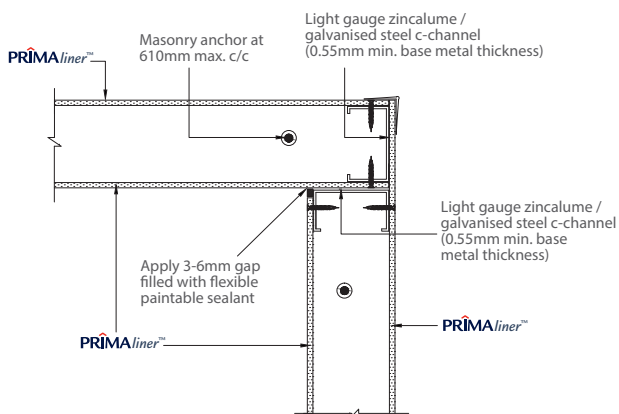
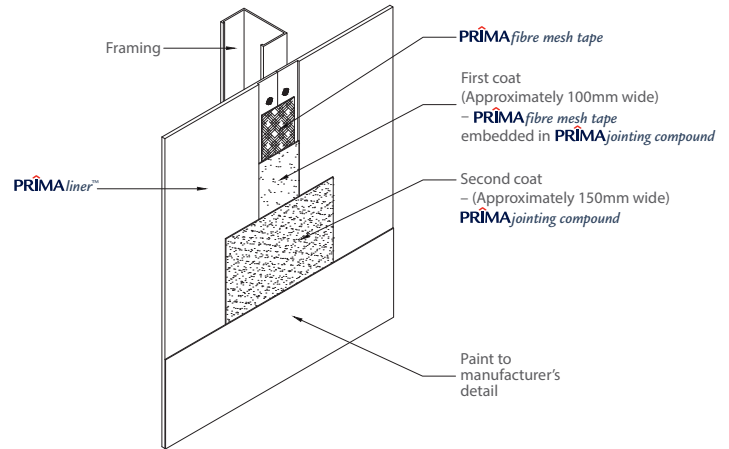
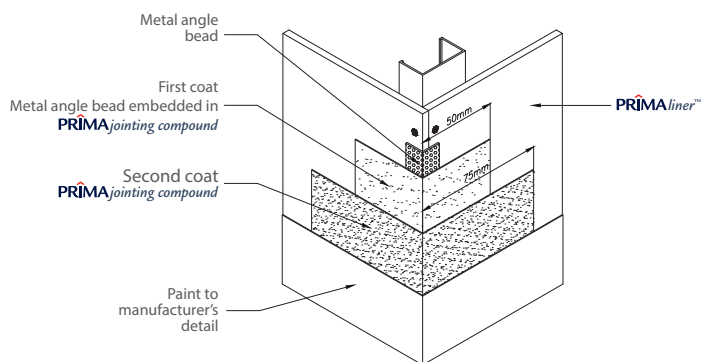
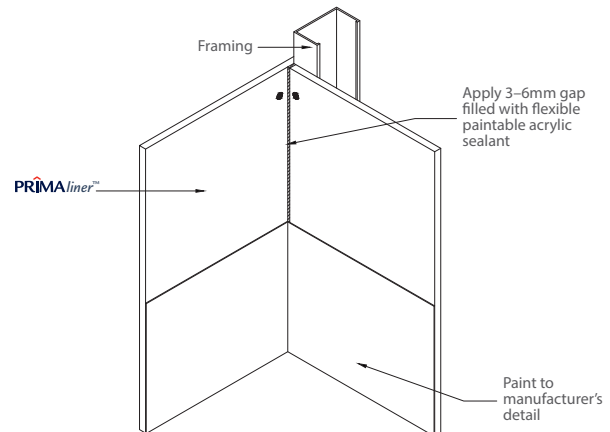

Figure 10: Corner wall intersection of drywall to drywall
Figure 14: Flush joint detail
Figure 15: Outward flush joint corner
Figure 16: Inward flush joint corner
- c. Refer to Figure 10 for corner wall intersection of drywall to drywall. Only inward corner required a 3 – 6mm gap filled with flexible paintable sealant. Refer also Figure 15 and 16 Corners details.
- Refer to Figure 14 for flush joint detail, Figure 15 for outward flush joint corner and Figure 16 for inward flush joint corner.